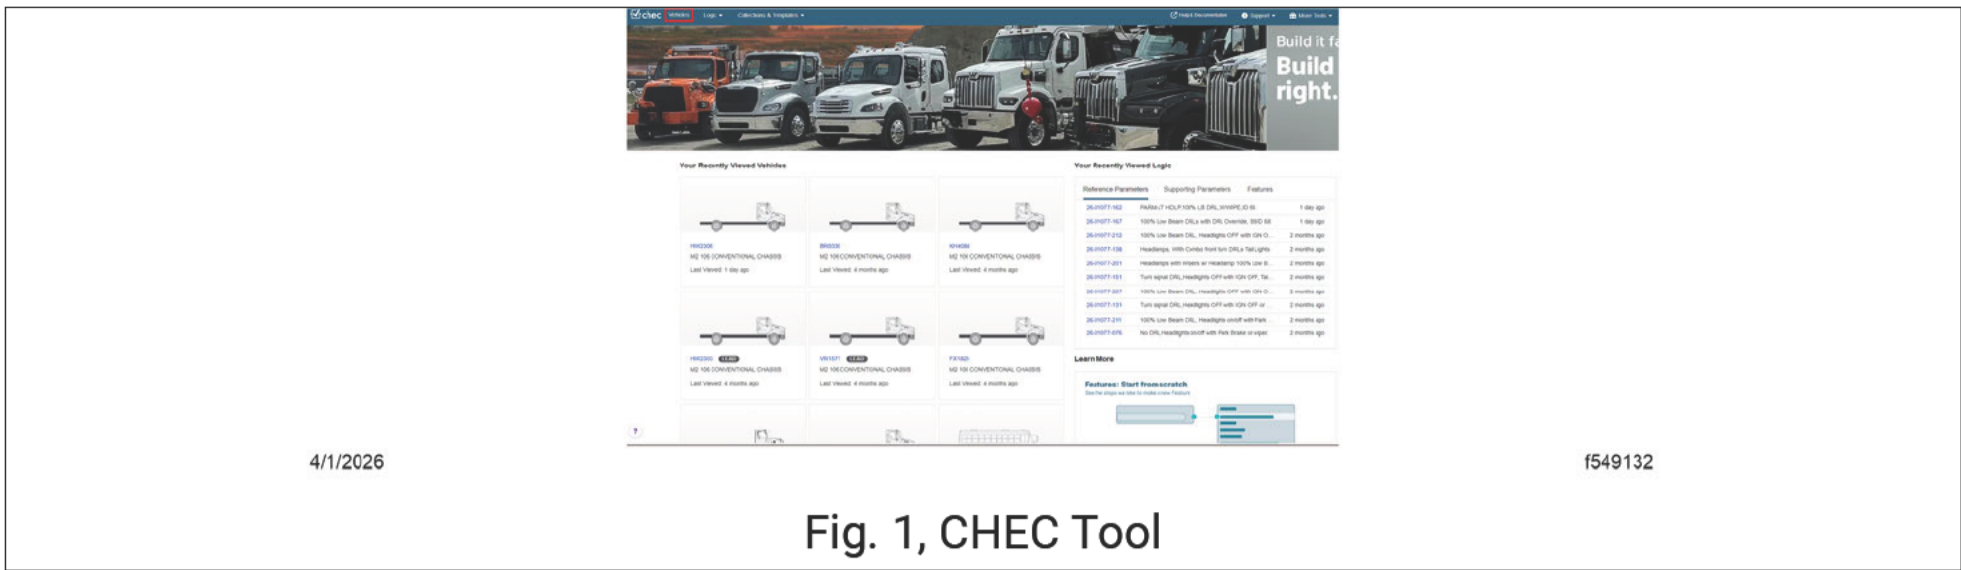

Fig. 1, CHEC Tool
- In the CHEC tool, go to 'Vehicles.' See Fig. 1.